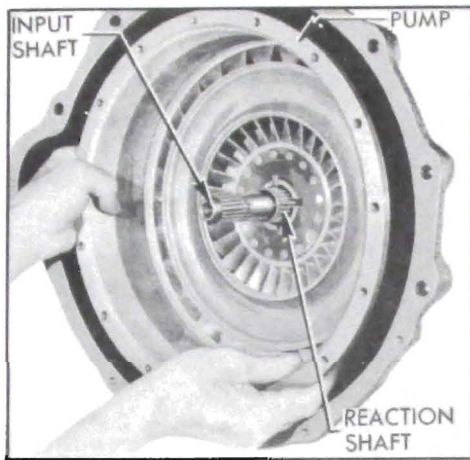

Figure 4-15—Removing Converter Pump
8. Pull the converter pump forward from the reaction shaft (fig. 4-15) and immediately check for evidence of oil leakage. Radial streaks of fresh oil on back of pump and fresh oil streaks on face of front oil pump body indicate leakage past the oil pump seal.
1. Install the converter pump on reaction shaft, turning it until lugs on pump hub enter the slots in front oil pump driving gear. See figure 4-15.